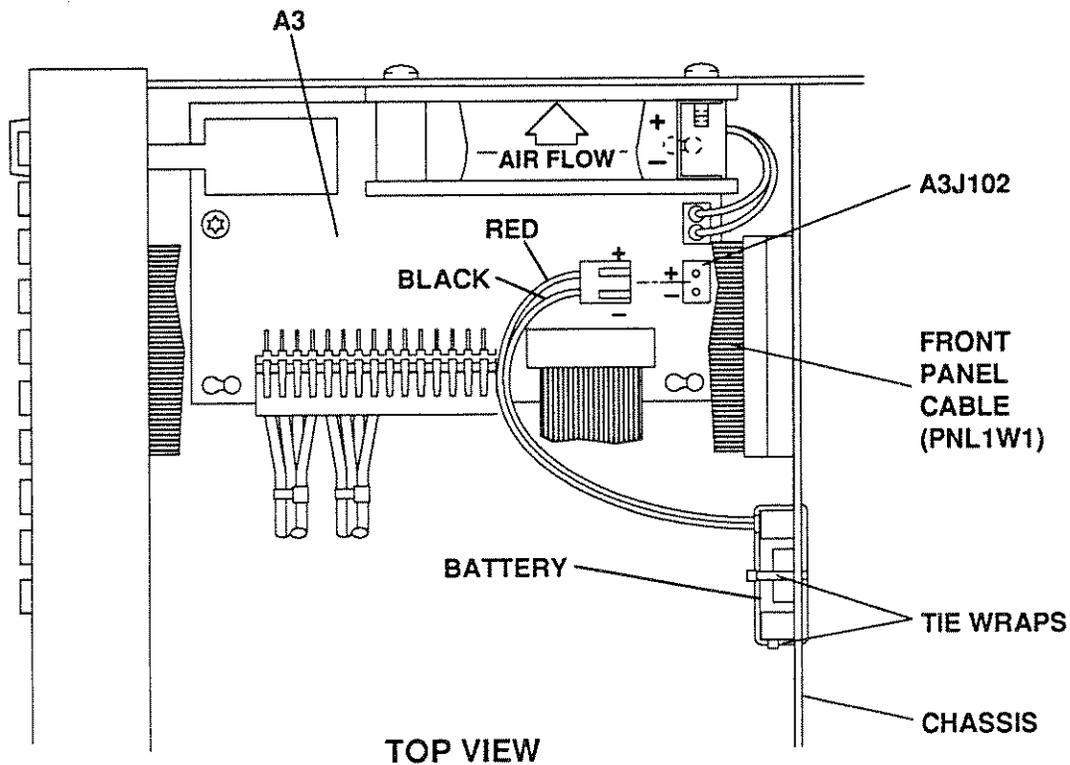

Figure 8-10. Remove and Replace BT1 Battery Assembly
2. Disconnect the following wires/cables (see Figure 8-10):